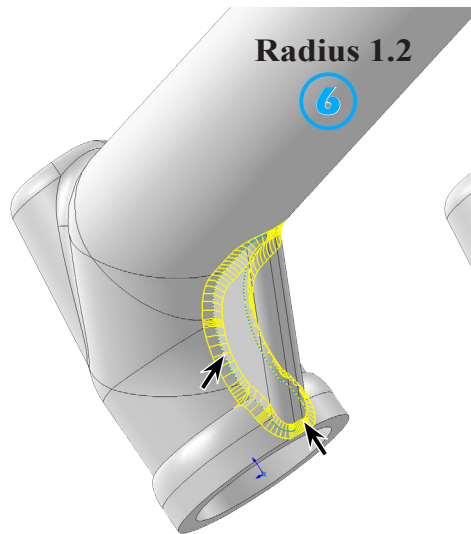

Fig. 47
- ⑥ Radius  1.2
click edges of Rib at Sweep (2), Fig. 47